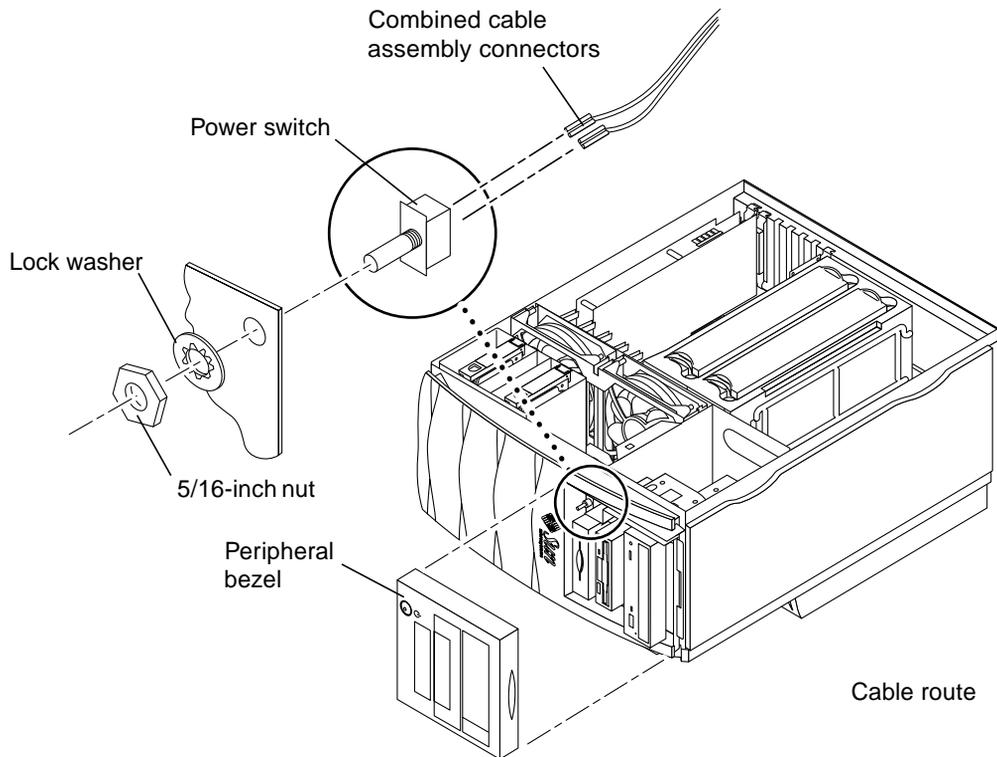

FIGURE 6-5 Removing and Replacing the Power Switch Assembly
3. **Using a 5/16-inch nutdriver, remove the nut securing the power switch assembly to the chassis (FIGURE 6-5).**
1. **Position the power switch assembly in the chassis cutout (FIGURE 6-5).**